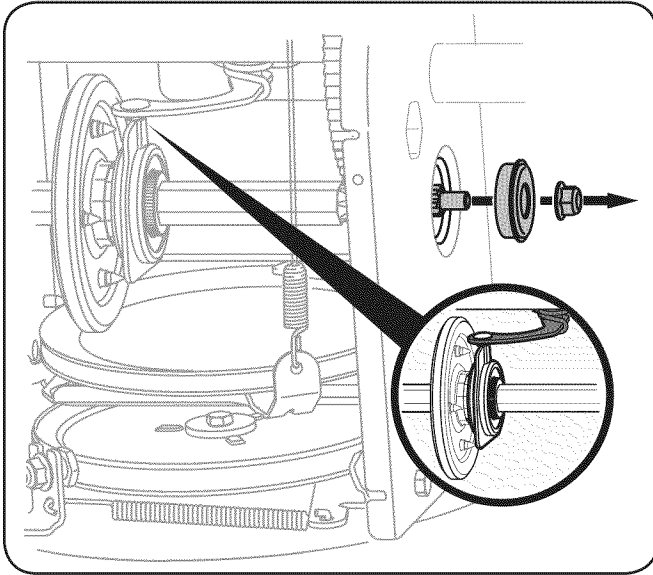

Fig. 7-9
- Carefully remove the hex nut which secures the hex shaft to the snow thrower frame and lightly tap the shaft's end to dislodge the ball bearing from the right side of the frame. See Fig. 7-9.
NOTE: Make sure the shift lever pin is in place in the bearing housing. See Fig. 7-9 inset.